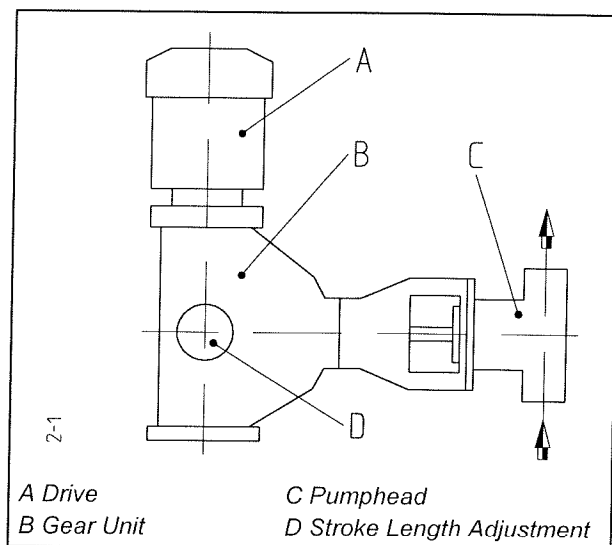

Fig. 2.1: Metering Pump
The metering pump is a reciprocating positive displacement pump. Basic components are the drive (A), the gear unit (B), the pumphead (C), and the stroke length adjustment (D) (Fig. 2.1). The functions of the components are described in section 3 (Assembly Groups).